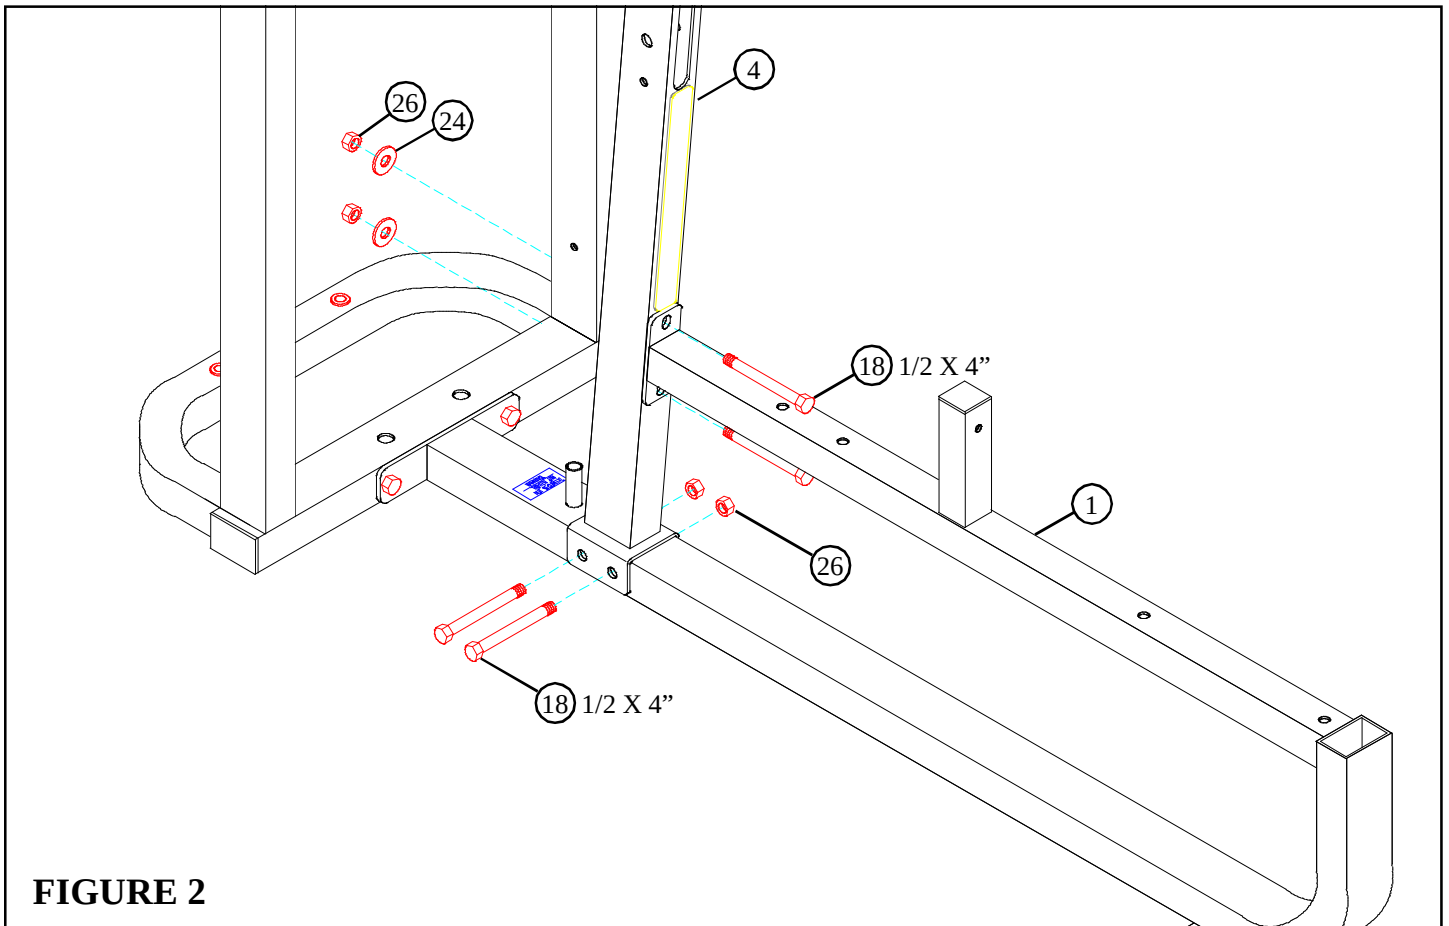

FIGURE 2
- **LOOSELY** assemble the UPRIGHT (4) to the BENCH FRAME (1) using four 1/2 X 4" BOLTS (18), two 1/2" WASHERS (24), and four 1/2" LOCK NUTS (26) as shown in FIGURE 2.